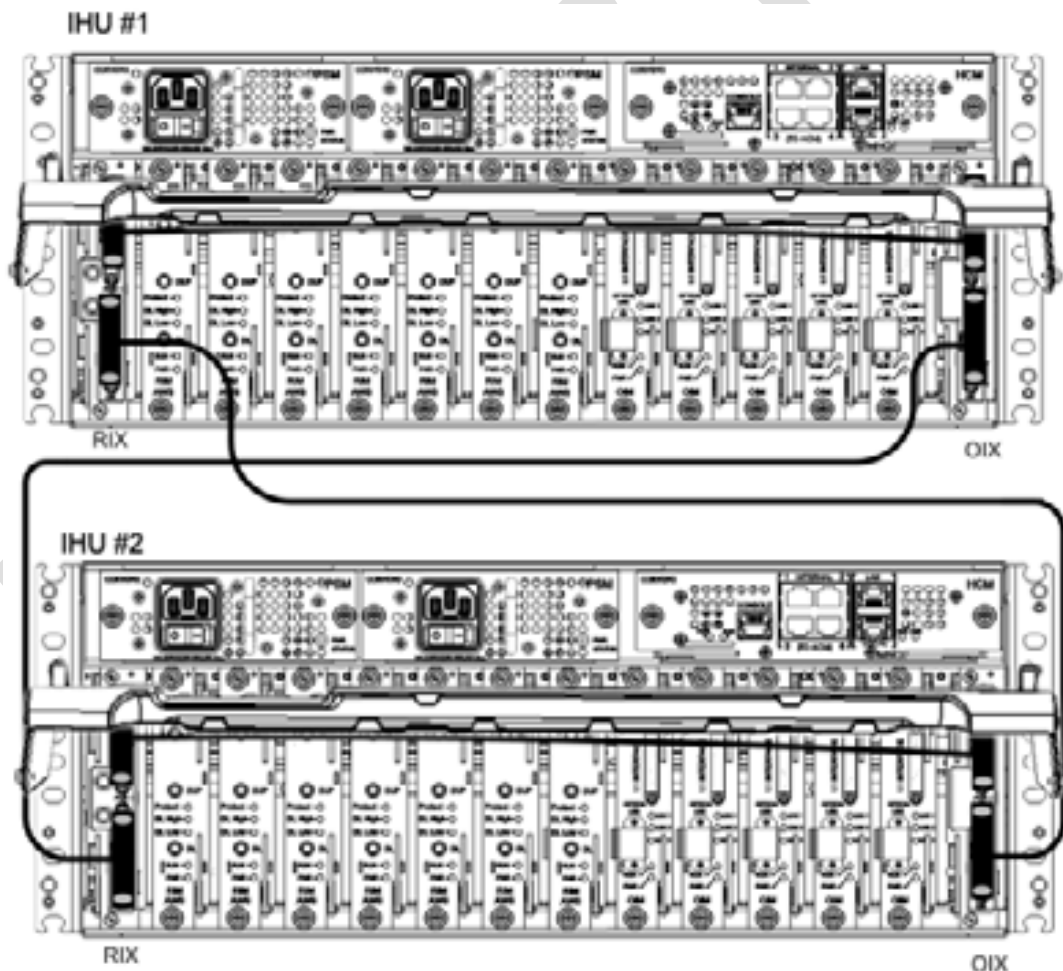

Figure 5-50. RIX to OIX Connections between two IHUs
- To one HEU and one OIU (see Figure 5-50)
- Connections to additional IHU unit (see Figure 5-50):